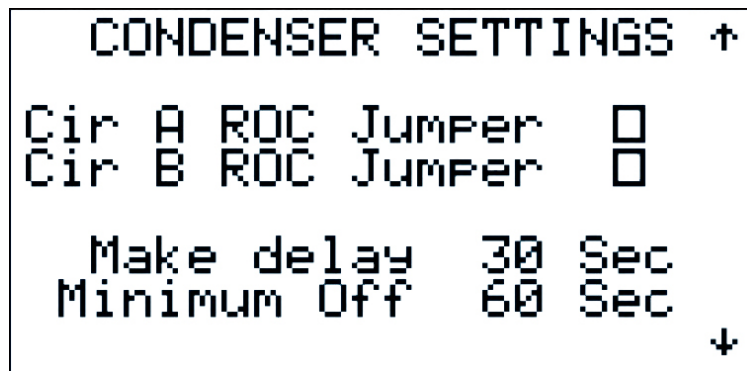

Figure 19
2.3.3.1.1 Configuration (Figure 19)
Selecting the CONFIGURATION from the Commissioning Menu displays the CONDENSER SETTINGS screen (Figure 19). This screen allows the remote condenser to be used for circuits A and B. This screen also allows the settings for the tower and pool flow switches to be modified.